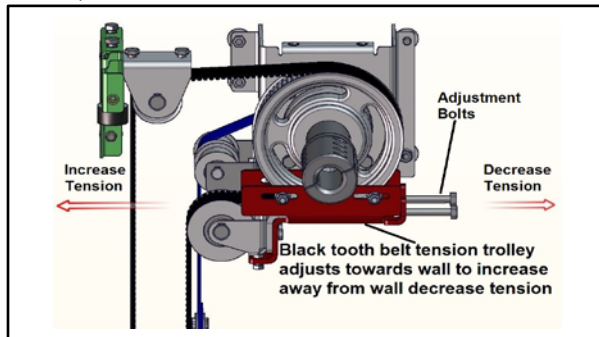

Figure 59
5. Release the tension from the secondary drive belt by moving the trolley bracket at the top of the side column away from the wall. (See Figure 59.)